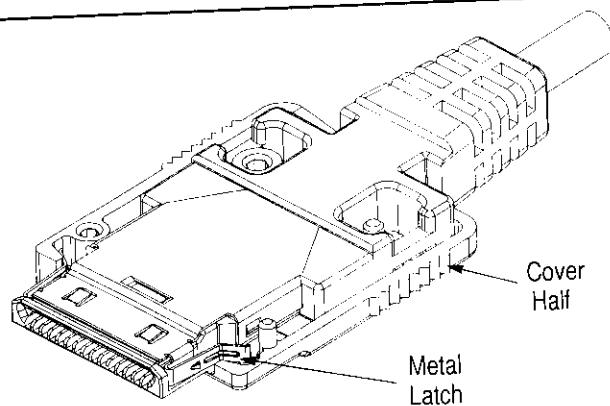

Figure 3
1. Lay the overmolded connector assembly into one cover, making sure that the metal latch is inserted into the proper location (see Figure 3).